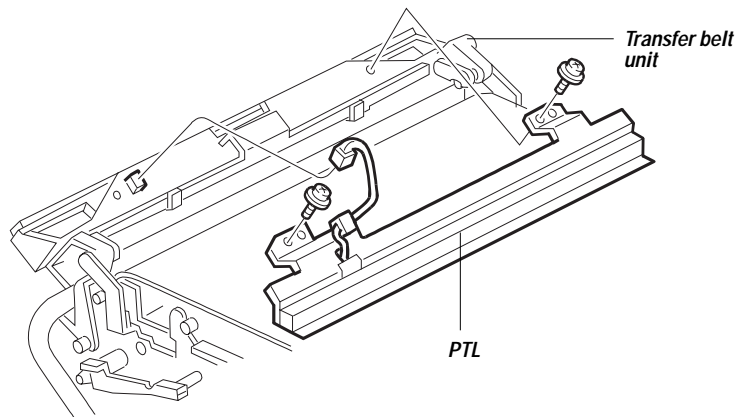

Figure 3-22 Installing the PTL
3. *Replace the PTL on the transfer belt unit with the PTL provided in this kit (see Figure 3-22).*